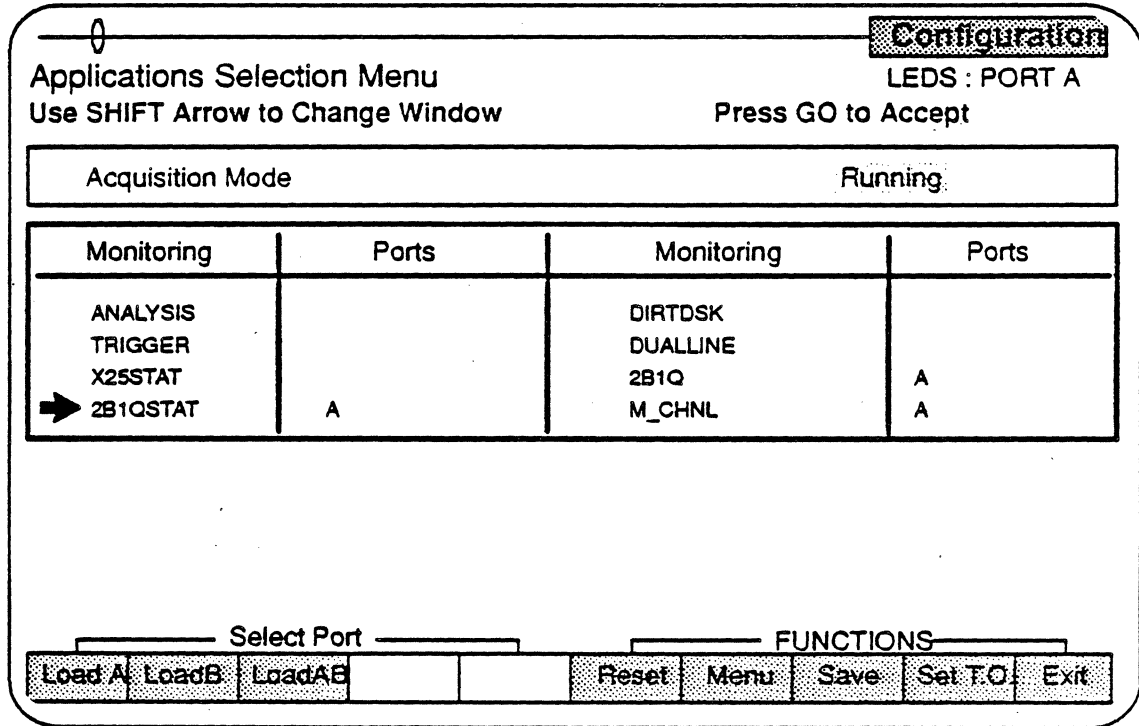

Figure 22.5: ISDN U-Interface (2B1Q) Monitoring and Statistics Applications Loaded.
8. Load the 2B1Q, 2B1Q STAT and M\_CHNL applications (see Figure 22.5) and press *Go*. You may, of course, load fewer than these three applications.